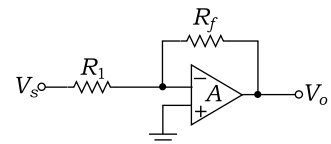

Fig. 4.50
11. Figure 4.50 shows an OP-AMP feedback amplifier circuit. What is the type of feedback shown there?